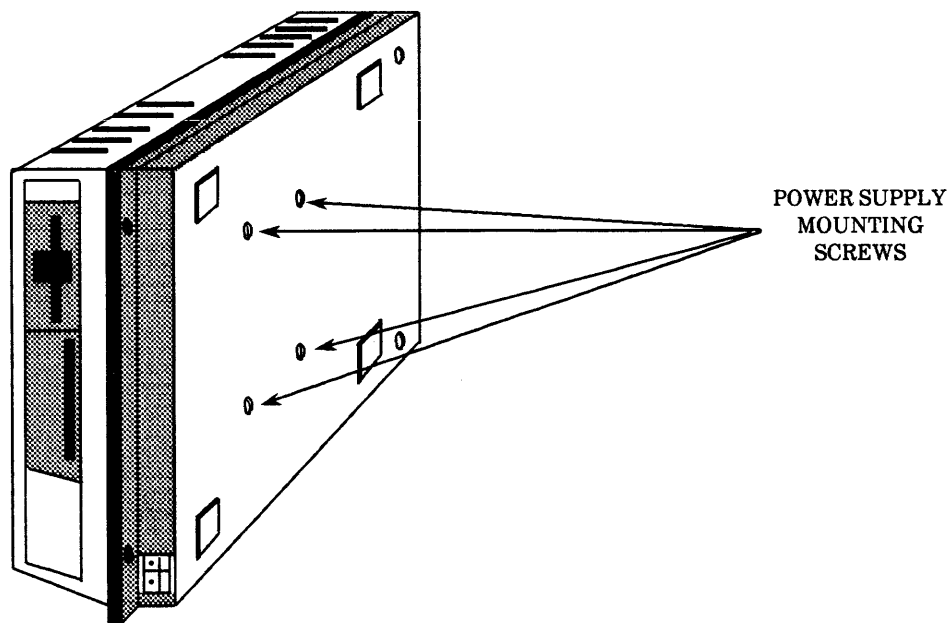

Figure 3-7. Power Supply Mounting Screws
2. Remove the top cover. As you are removing the top cover retaining screws from the bottom of the chassis, also remove the two screws holding the front of the drive base plate and the four screws holding the power supply in place. See Figure 3-7